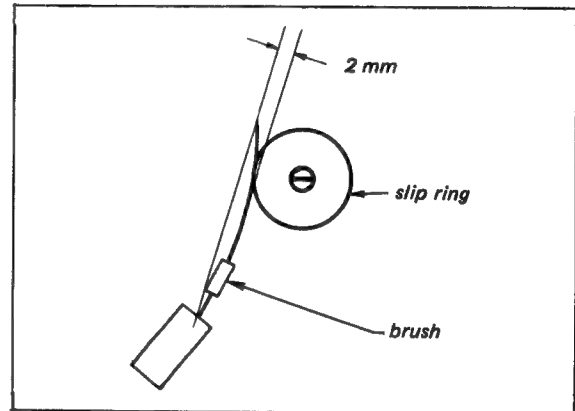

Fig. 4-7a. Brush pressure adjustment
14. Tighten the brush pressure adjusting screws to obtain a 2 mm bend (approximately) as shown in Fig. 4-7a. Inspect the brush and slip-ring assembly to make sure that the brushes are centered in the slip rings.